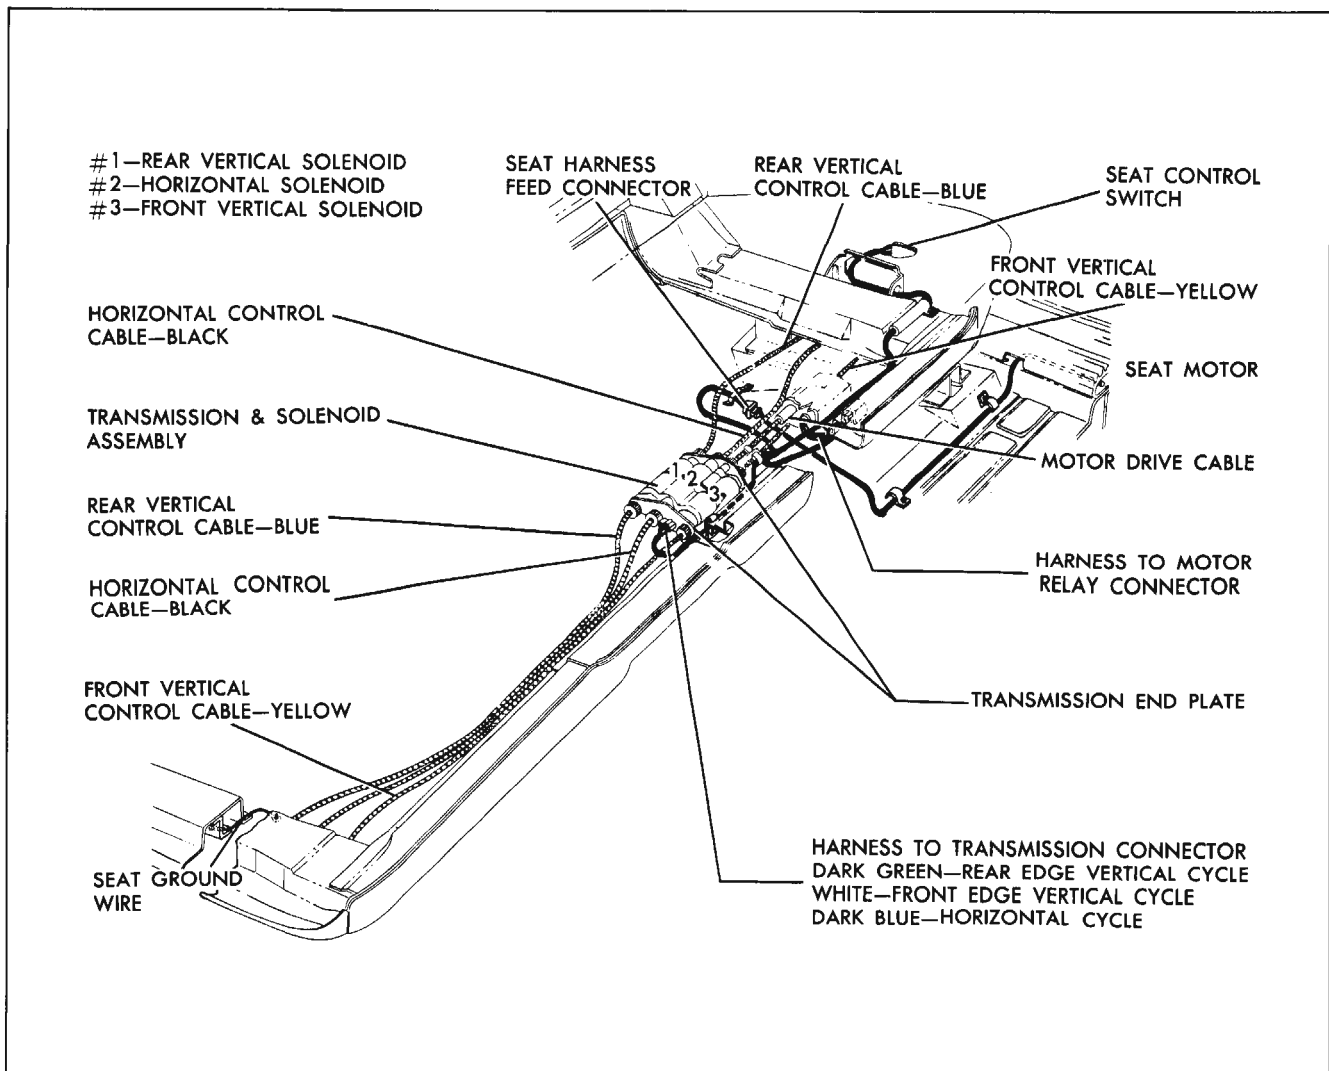

Fig. 16-83 Six-Way Seat Installation
Solenoid No. 1 (Fig. 16-83) controls the vertical movement of the rear edge of the seat. Solenoid No. 2 controls the horizontal movement of the rear edge of the seat. Solenoid No. 3 controls the vertical movement of the front edge of the seat. In addition to the six-seat adjuster drive cables at the transmission assembly, a motor drive cable is installed from the motor to the transmission assembly. When one of the control switch buttons is actuated, the motor and one of the solenoids are energized simultaneously. The solenoid plunger engages the large gears with a driving gear. The driving gear rotates the large gears which rotates the drive cables and operates
4. To install horizontal and vertical cables, reverse removal procedure. Make sure cables are installed to correct gear nuts. (Fig. 16-83)
2. Disconnect wire harness connector from transmission. (Fig. 16-83)